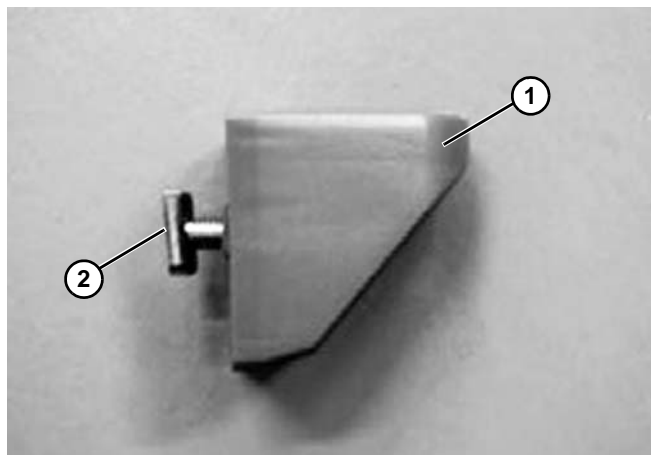

Figure 83
1. Prepare the heavy-duty guide rail bracket (**Figure 83, item 1**) with T-bolt (**Figure 83, item 2**).